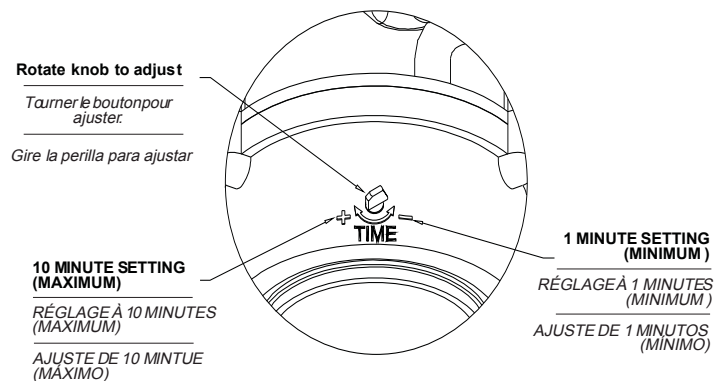

Figure 3
- 9) Prior to installing diffuser (14)- need to adjust time delay on PIR sensor (6). Maximum delay time is 10 minutes and minimum is 1 minute. The light will remain on as long as there is movement within the detection zone. Once zone is vacated, the delay time determines how long light will remain on. To increase the amount of time the fixture will remain illuminated, rotate knob toward the "+" symbol on the module- See Fig. 3